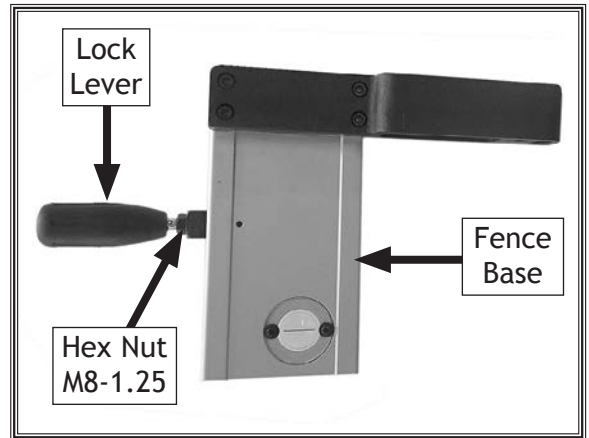

Figure 26. Fence base lock lever installed.
- Thread (1) M8-1.25 hex nut onto lock lever, install lock lever onto fence base, then tighten hex nut to secure (see **Figure 26**).